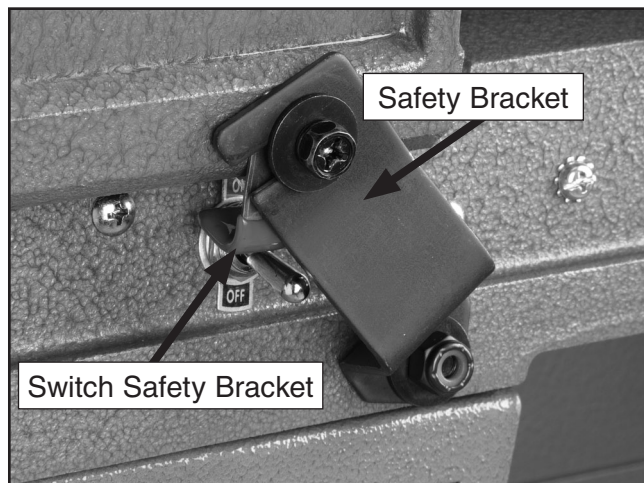

Figure 11. Safety bracket installed for shipping.
2. Remove the safety bracket with a Phillips head screwdriver, then tighten down the switch safety bracket (see **Figure 11**).